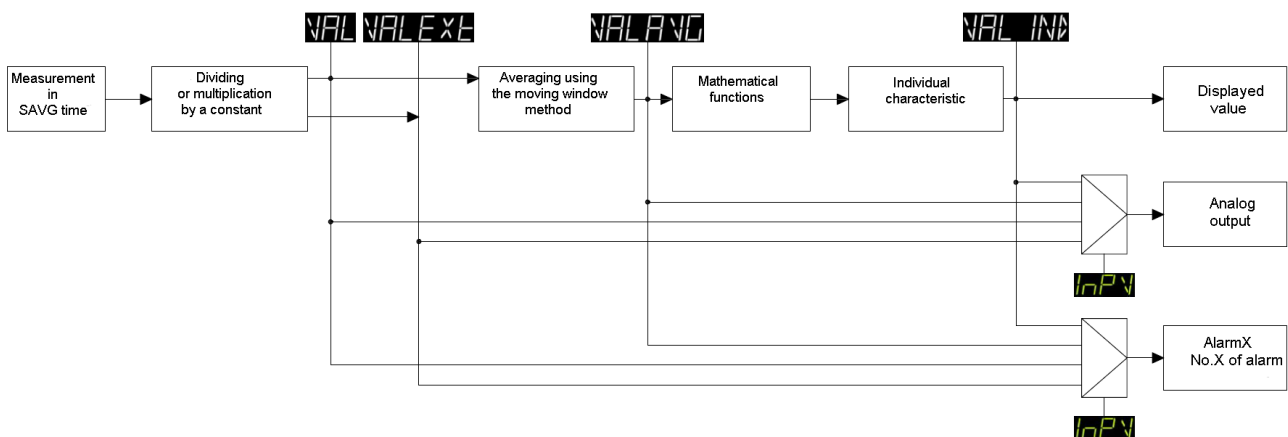
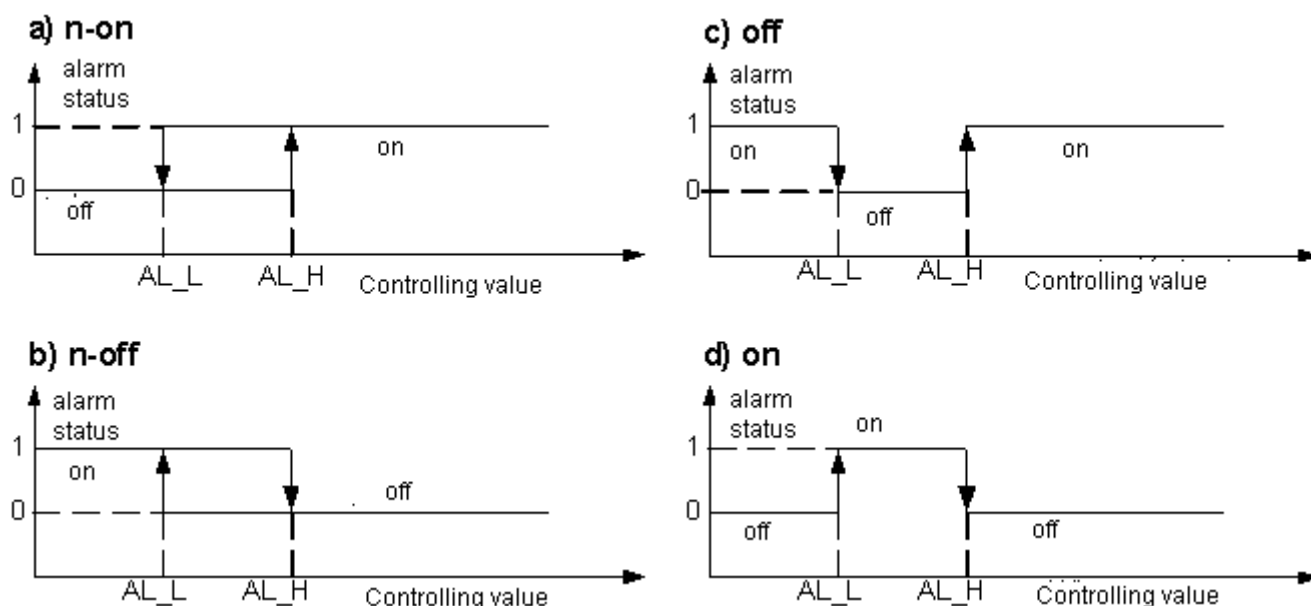

Fig. 9: Measurement recalculation.
Fig. 12: Alarm types: a) n-on; b) n-off; c) off; f) on.
As mentioned above, the measuring value is several times recalculated. The sequence of operations is shown in Figure 9.
- **InPV** – setting which defines the quantity that will control the analog output signal (see Fig. 9).
Each alarm output is independently configured and can be configured to work in one of six modes. It is possible to select the value controlling the alarm (see Fig. 9), define the alarm state change thresholds and define delays alarm activation and deactivation for each of the alarms. Fig. 12 shows how the alarms work in n-on, n-off, off and on modes. Additional manual working modes H-on and H-off enable to permanently activate or deactivate the alarms. An additional REG operation mode has also been added to the alarm type settings. In this mode, the alarm status is controlled via the RS-485 interface by MODBUS protocol registers.